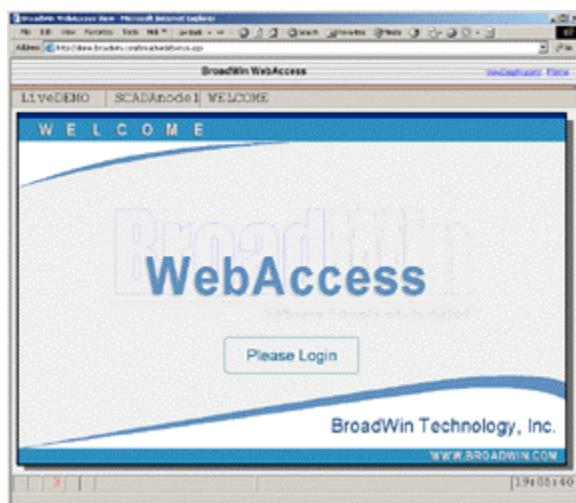

Figure 8.24 VIEW Login
2. The WebAccess View Login Page appears (Figure 8.24).
- Click on "**Please Login**" (Figure 8.24).